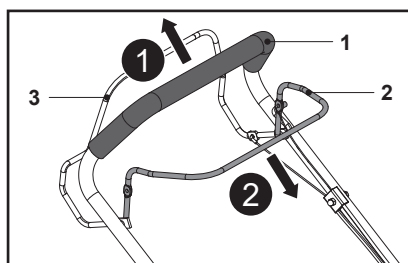

Fig. 20
1. Release the self-propelling lever (3) to stop the self-propelled function (Fig. 20, step 1).
2. Release the brake lever (2) to stop the engine and cutting blade (29) (Fig. 20, step 2).